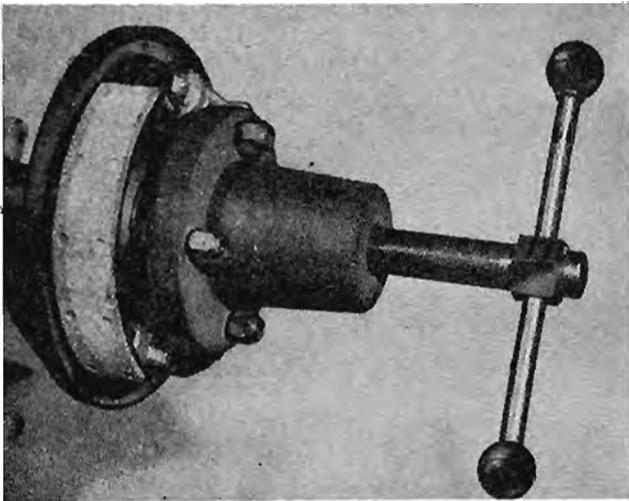

Fig. 6 Hub removal utilising the Churchill tool No. M86.
- (h) To remove the disc wheel hub, first remove the split pin at the axle end followed by the castellated nut, washer and splined taper collar. Remove the hub with the Churchill hub remover, Tool No. M86 (Fig. 6) or S132/2 (Fig. 3).